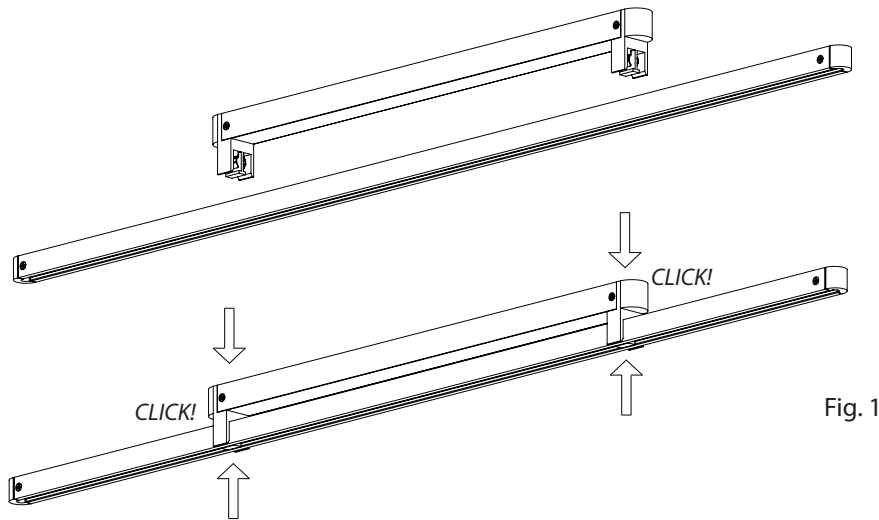

Fig. 1
2. Press down firmly on the top of both ends of the Light Bar, while pressing up on the bottom of the Power Bar, until the Light Bar clicks into place. (Fig. 1)